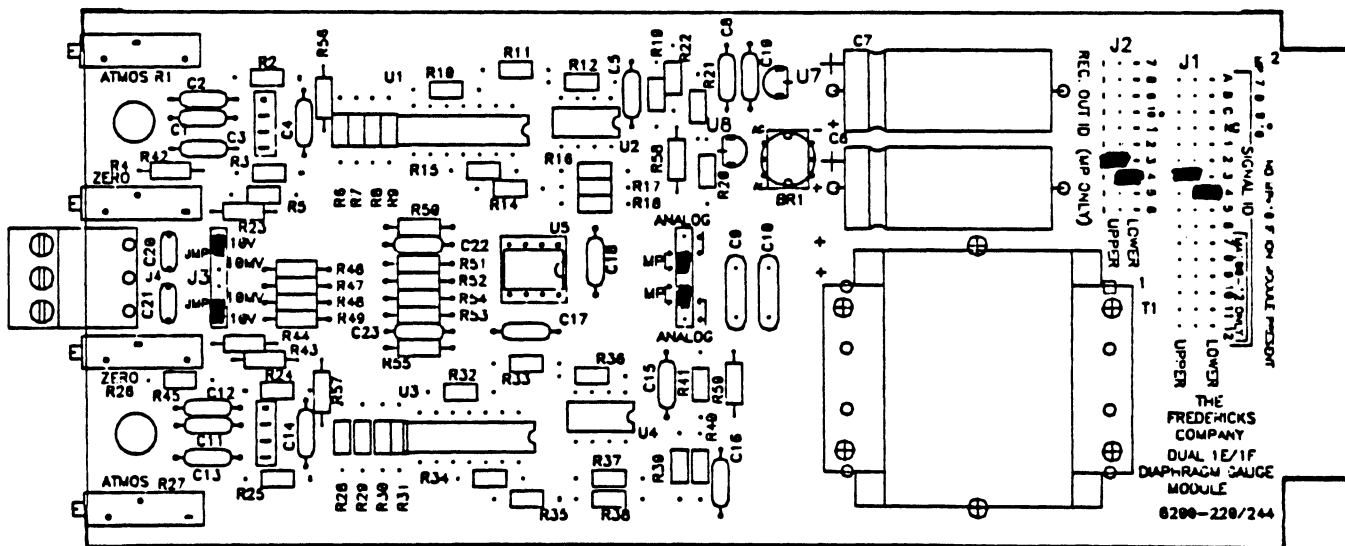

Fig. 9.5a - Diaphragm Module
DIAPHRAGM MODULES- A diaphragm modules are shown in Fig. 9.5a and 9.5b. This module is typical of all modules. The assignment of station identification numbers on a diaphragm module is accomplished by placing jumpers across the appropriate pins in the SIGNAL ID and the REC OUT ID sections. The upper diaphragm station has been named station #3 and the lower thermocouple station has been named station #4 as an example. Do not duplicate station # assignments with other modules. Also two (2) jumpers are placed in the "MP" positions of the ANALOG/MP section of the board.